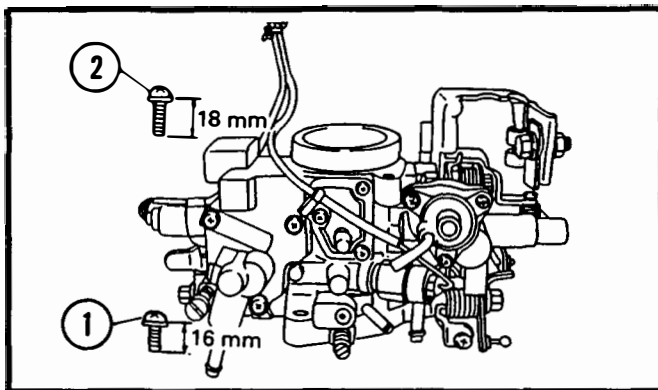

Figure 23.
- One mounting screw is shorter than the other two. Failure to return screws to their proper location may cause damage to the carburetor body. See Figure 23.